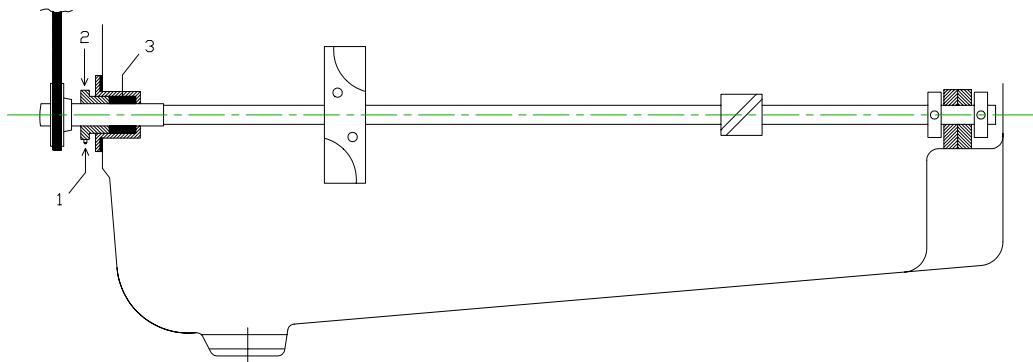

Fig. 4: Mechanical propulsion agitator system.
The machine is fitted with a mechanical propulsion agitator shaft (see fig.4). In this system only the steering shaft needs greasing. This is done via the grease nipple (1) which is mounted in the gland (2). For this purpose two holes were made in the protection cover.